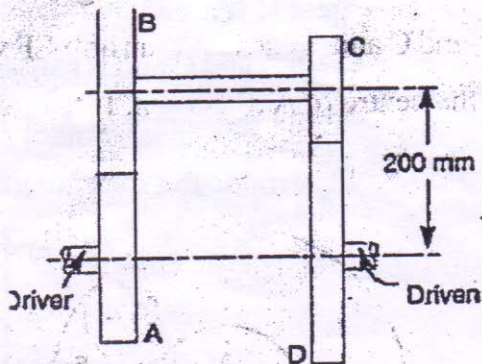

Fig 3
8. The speed ratio of the reverted gear train, as shown in fig.3, is to be 12. The module of gears A and B is 3.125 mm and of gears C and D is 2.5 mm. Calculate the suitable numbers of teeth for the gears. No gear is to have less than 24 teeth.